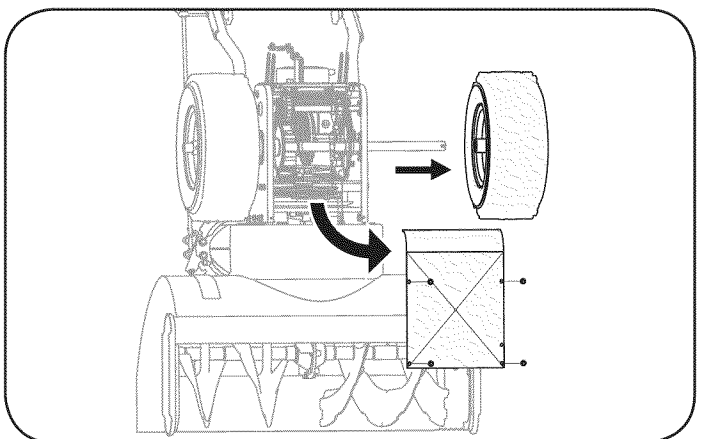

Figure 37
- Remove screws from the frame cover underneath the snow thrower (refer to Figure 37). Remove the right wheel from the axle.